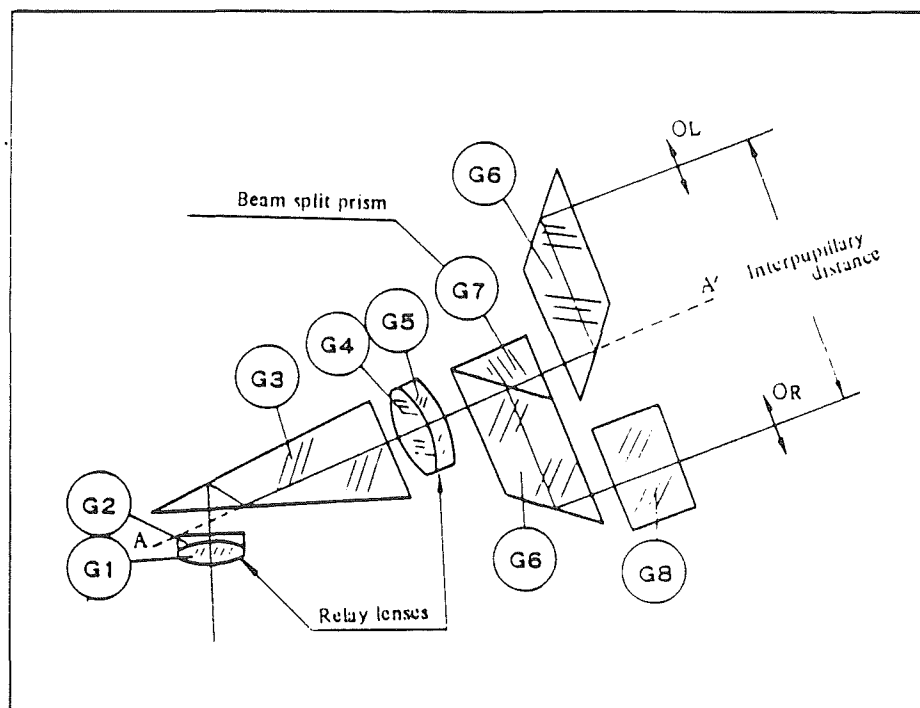

Fig. 12
- As shown in Fig. 12 images are produced at OL and OR by the parallel ray beams between (G1), (G2). The right and left side prisms ((G6) and (G7)) are revolved round the axis AA'.
- Owing to Siedentopf type adopted, even though the interpupillary distance is changed (within a range of 51 ~ 75 mm), for which prism cover (104) is vertically turned and moved, the tube length remains constant all the times.